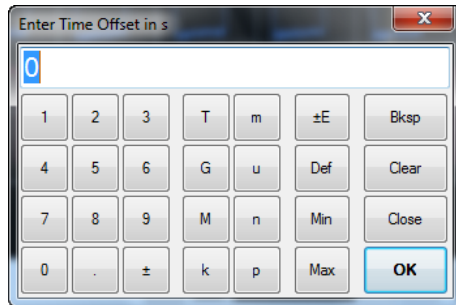

Figure 2-21 Horizontal offset keypad dialog
- 6 The horizontal offset keypad dialog is displayed as shown in Figure 2-21.